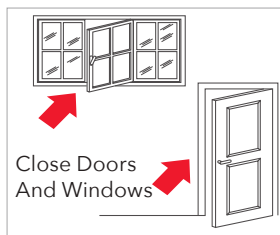

Fig. 15
- Close the windows and doors in the room where the Air Conditioner will be used (► Fig. 15). When installing the appliance semi-permanently, you should leave the door slightly open (as little as 0.4" [1 cm]) to guarantee correct ventilation.